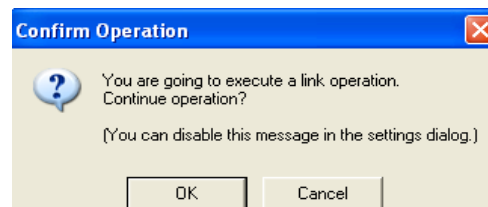

Figure 72: Confirmation Message after Drag and Drop
- 2) You get a confirmation message after drag and drop. Please refer to the Figure 72.